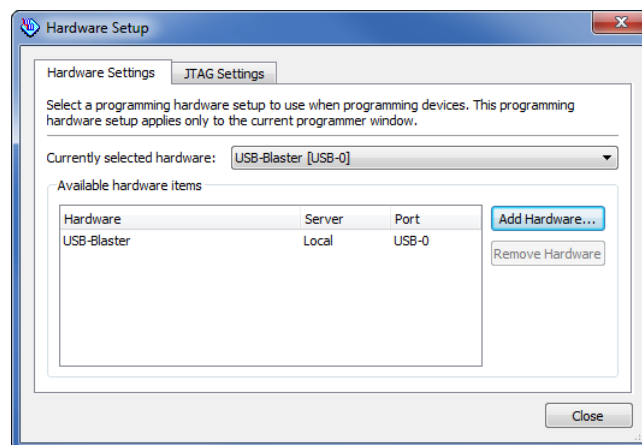

Figure 11. Setting up hardware.
- For SignalTap II to work, we need to properly set up the hardware. First, make sure the DE-series board is plugged in and turned on. In the Hardware section of the SignalTap II window, located in the top right corner, click **Setup...**, bringing up the window in Figure 11. Double click USB-Blaster in the Available Hardware Items menu, then click **Close**.